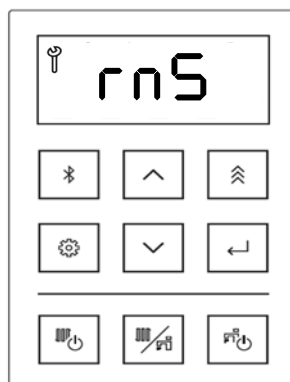

Figure 150
17. After 60 minutes flushing time completes, display shows "rnS" (rinsing) (Figure 150) and beeping sound is observed.